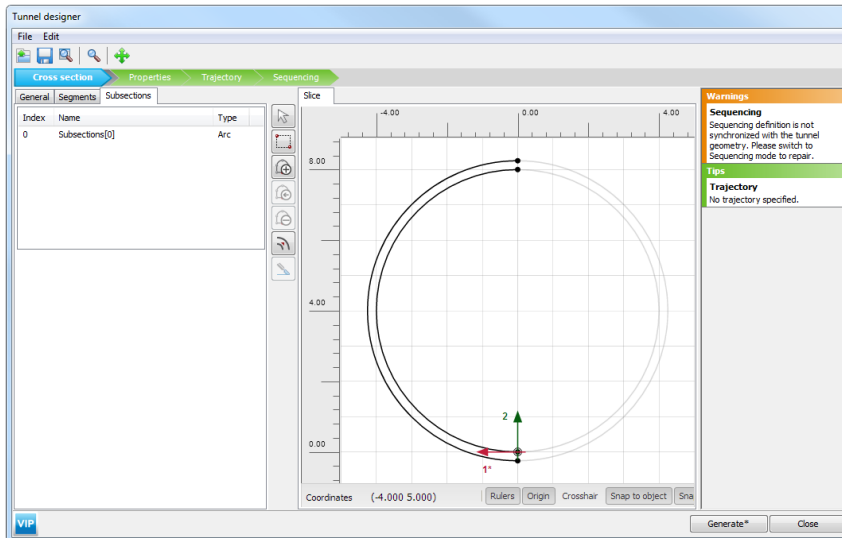

Figure 6.5 The *Cross section* tabsheet of the *Tunnel designer*
- Assign a value of 0.25 m and click *OK*. A screenshot of the *Cross section* tabsheet after the proper assignment is given in Figure 6.5.